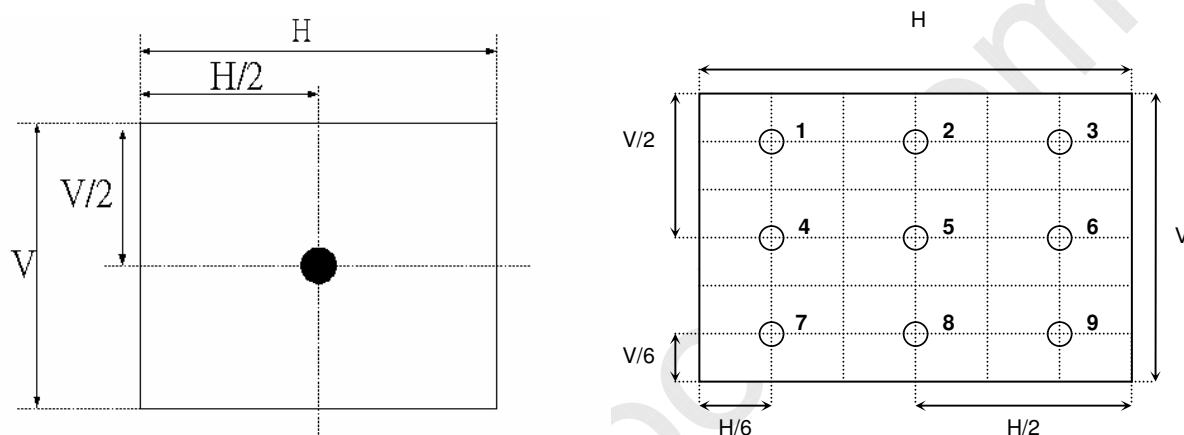

Fig.4-2 Optical measurement point
2. Surface Luminance is luminance value at point 5 across the LCD surface 50cm from the surface with all pixels displaying white. For more information see Fig. 4-2. When lamp current  $I_L=6.0\text{mA}$ ,  $L_{WH}=L_{on5}$ , where  $L_{on5}$  is the luminance with all pixels displaying white at center 5 location.